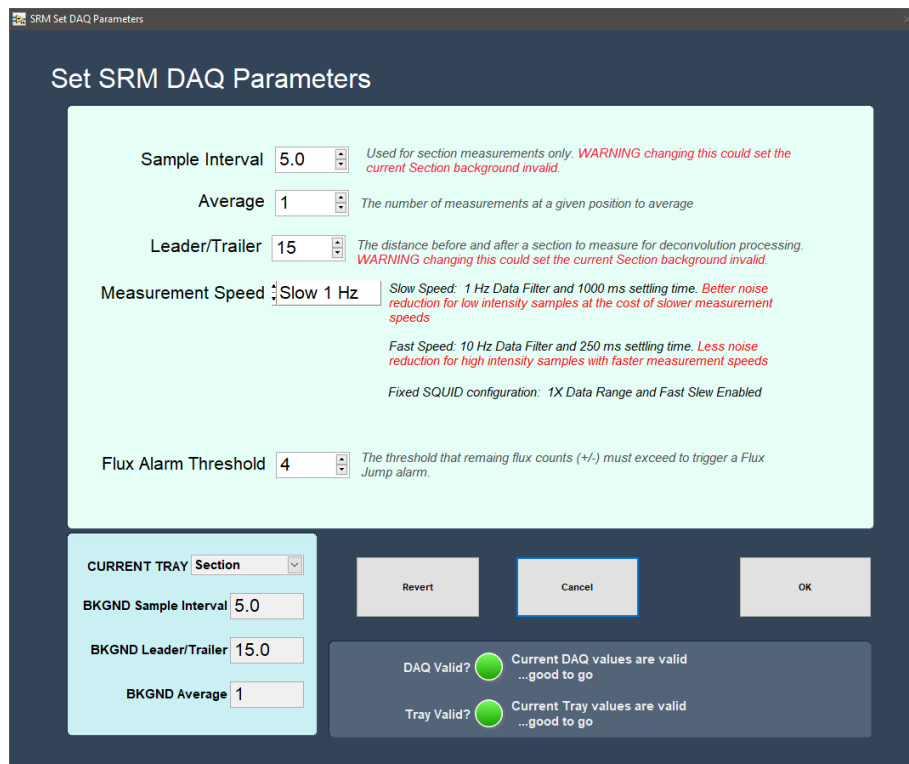

Figure 3. Measurement Editor Window.
1. Select **DAQ > Measurement Editor** from the drop-down menu. The Measurement Editor window will open (Figure 3).